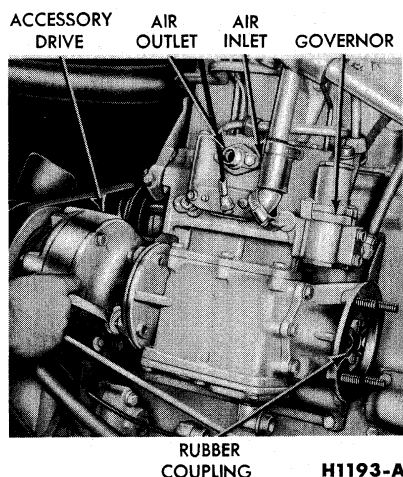
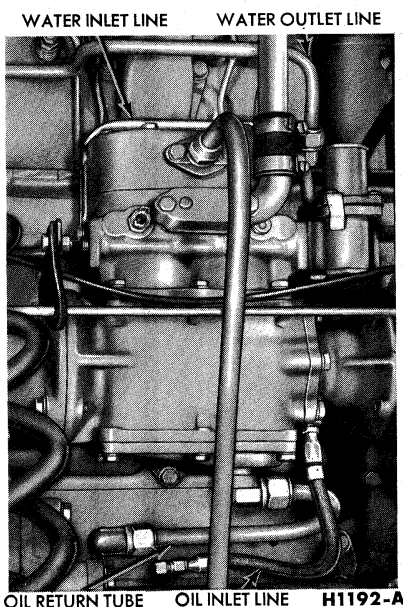
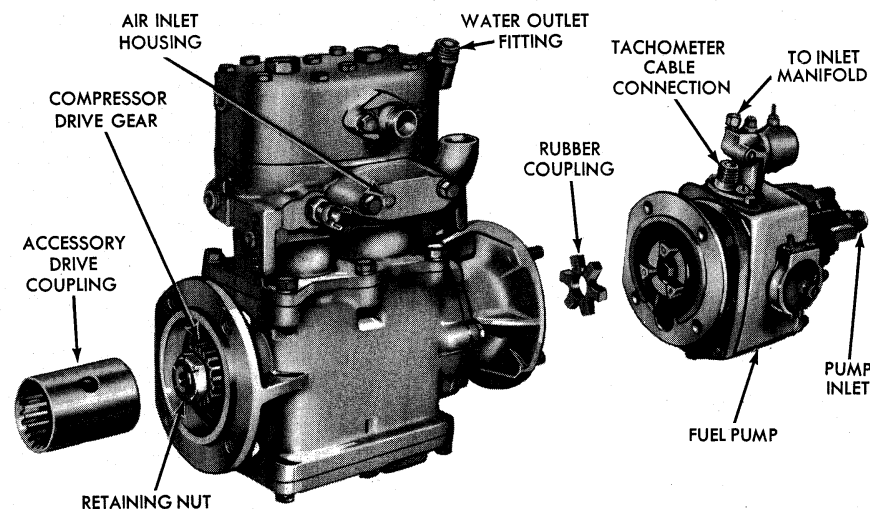

FIG. 8—Removing or Installing Air Compressor—Cummins
FIG. 9—Air Compressor and Fuel Pump Installed
FIG. 10—Air Compressor and Fuel Pump Removed
3. Remove the rubber coupling from the drive unit (Fig. 8).
5. Disconnect the air compressor oil inlet line at the engine block (Fig. 9).
7. Disconnect the water inlet and outlet lines and the air inlet and outlet lines from the compressor (Figs. 8 and 9).
8. Remove the two nuts and lock-washers that hold the compressor to the support bracket, and the four capscrews and lock washers that hold the compressor to the accessory drive (Fig. 8).
9. Remove the compressor and the splined accessory drive coupling (Fig. 10). Discard the old gasket.
1. Assemble the splined accessory drive coupling to the compressor drive gear (Fig. 10), and mount the compressor to the accessory drive, using a new gasket. Install and tighten the four capscrews and lock washers (Fig. 8).
3. Connect the water inlet and outlet lines (Fig. 9), and the air inlet and outlet lines to the compressor (Figs. 8 and 9).
4. Connect the air compressor oil return tube at the bottom of the compressor and at the engine block (Fig. 9).
6. Mount the governor to the compressor, and install the two governor-to-compressor retaining screws (Fig. 8).
7. Install the fuel pump to the compressor rear flange with a new gasket and rubber coupling in position (Figs. 8 and 10), then connect the throttle linkage and lines as described in Group 10.
2. Remove the compressor drive gear retaining nut, then remove the drive gear from the compressor crankshaft using a universal puller (Fig. 10).
4. Transfer the water inlet and outlet fittings, the air outlet fitting, and the oil return fitting from the old to the new compressor (Figs. 8, 9 and 10).
5. Transfer the air inlet housing and screen from the old to the new compressor (Fig. 10).
8. Install the splined compressor drive gear to the crankshaft of the new compressor, and secure with a flat washer, lock washer and nut (Fig. 10).